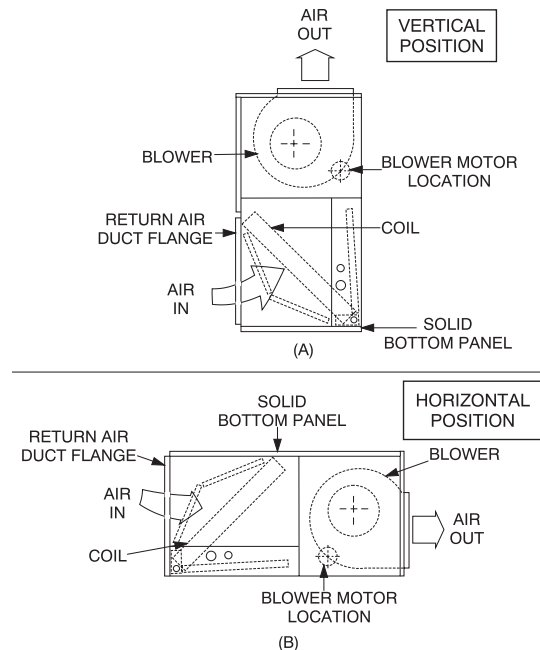

FIGURE 2 - VERTICAL AND HORIZONTAL APPLICATION
These evaporator blowers are shipped for vertical installation with vertical air discharge as shown in Figure 2(A) but may be converted for horizontal installation as shown in Figure 2(B) by interchanging the solid bottom panel and the return air duct flange.